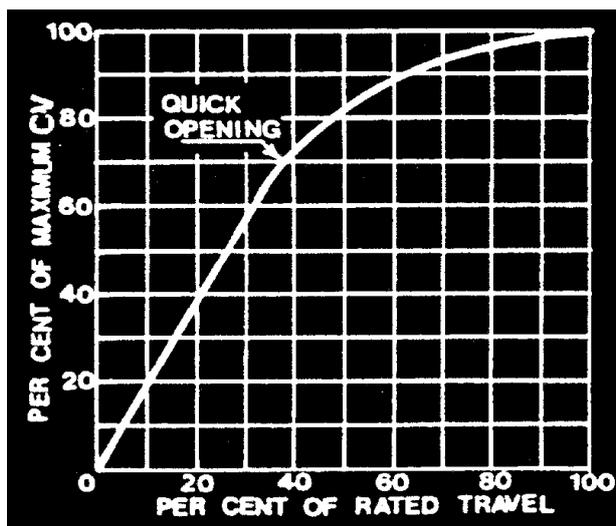

Figure 8(b) Flow Characteristic of Quick Opening Valves
- A typical **quick opening** valve plug is shown in Figure 8(a).
- Figure 8(b) illustrates the relationship between valve travel and Cv of the quick opening valve.
- As shown in Figure 8(b), quick opening valve plugs achieve 80% of maximum Cv with only 50% valve travel.